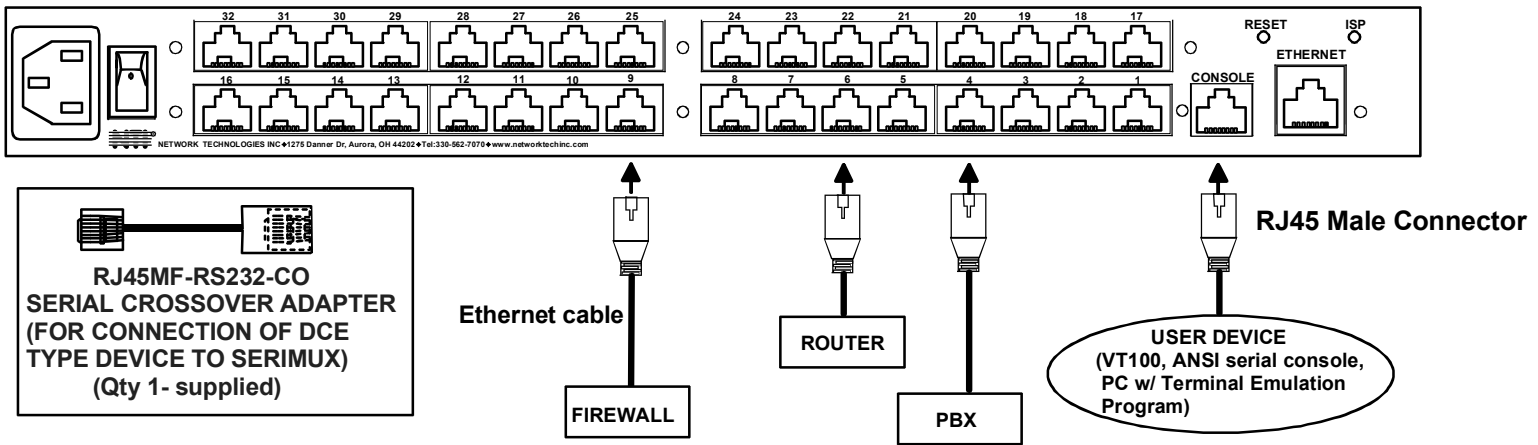

Figure 3- Connect terminals and devices to SERIMUX Console Switch
1. Connect a serial device to the port labeled "CONSOLE" on the SERIMUX using a serial cable with an RJ45 male connector (see cable specification on page 60). This will be the default administrator device. (Figure 3)